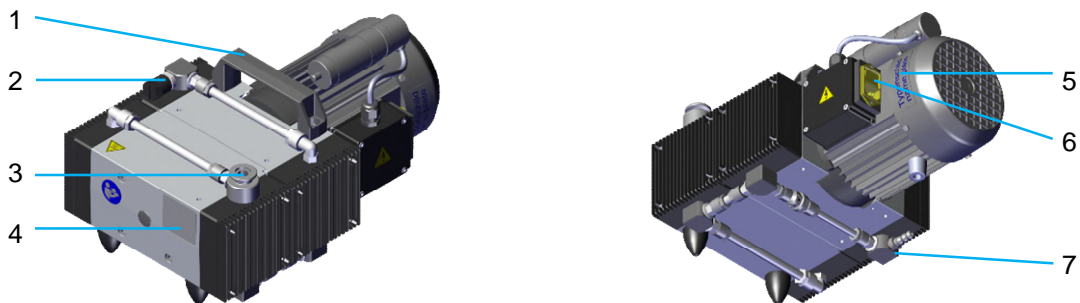
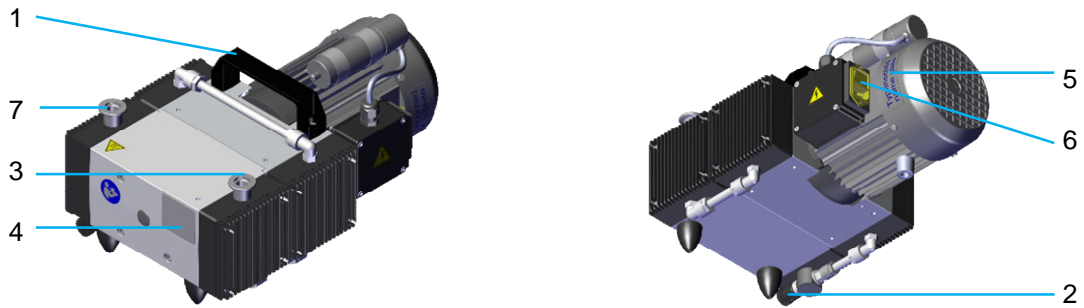

Fig. 4-3. Model MPC 603 T, front (left) and rear (right) view
Fig. 4-4. Model MPC 303 V, front (left) and rear (right) view
1. Connect the input (Fig. 4-1/3, Fig. 4-2/3, Fig. 4-3/3, Fig. 4-4/3).
2. Connect the output (Fig. 4-1/7, Fig. 4-2/7, Fig. 4-3/7, Fig. 4-4/7) if required.